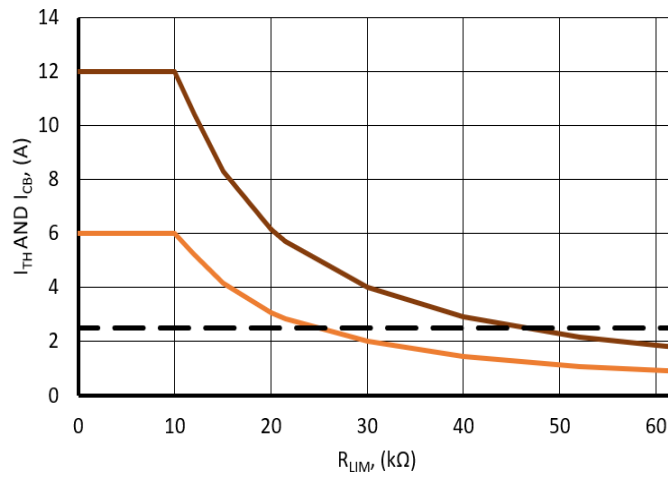

Figure 7. Current Trip Level Increasing  $R_{Lim}$  Resistance
- $I_{TH}$  is a threshold current that, when reached or exceeded for longer than 1.5 ms, will turn off the eFuse channel. The value of  $I_{TH}$  is set by  $R_{Lim}$  and that relationship can be seen in Figure 7 below.
- $I_{CB}$  is a threshold current that, when reached or exceeded will turn off the eFuse channel within 6  $\mu$ s. The value of  $I_{CB}$  is set by  $R_{Lim}$  and that relationship can be seen in Figure 7 above.